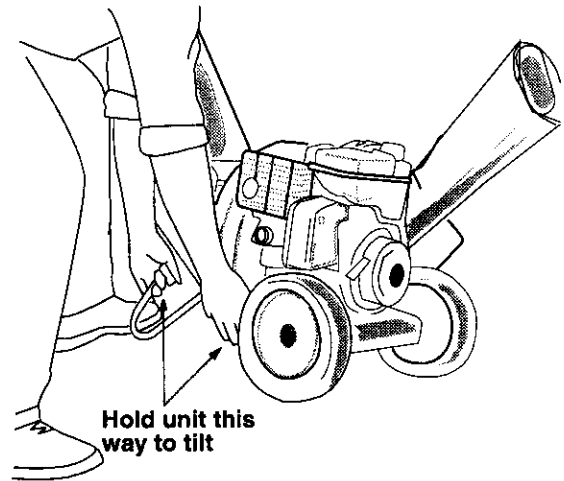

Figure 11
- Tilt chipper-shredder toward the left (from behind the hopper). See figure 11. Check oil level. Put the unit back on the ground carefully.